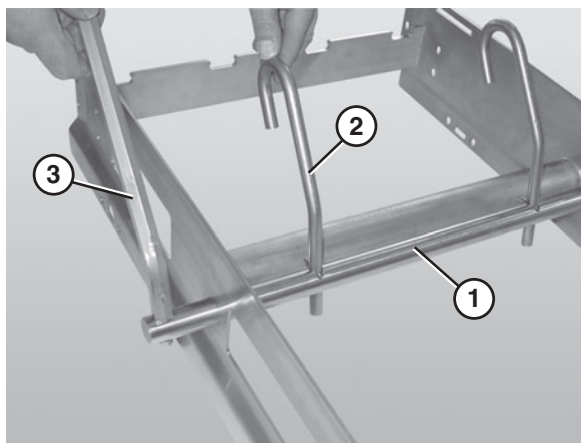

Figure 31
- Slide the belt lift pivot bar (Figure 31, item 1) through the designated holes in the frame.
- Attach the lifter bars (Figure 31, item 2) to the belt lift pivot bar (Figure 31, item 1). Make sure the hooked ends of the lifter bars are facing down when resting against the frame.
- Attach the lifter handle (Figure 31, item 3) to the belt lift pivot rod.